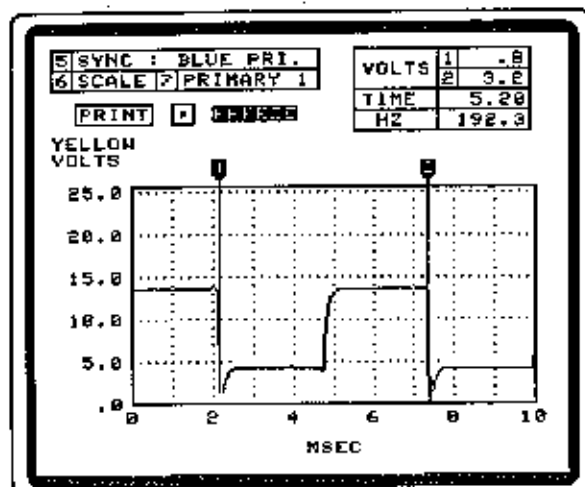

Figure 70
7. Change the format or freeze the pattern as needed. Refer to "Change Format" and "Freeze and Flags" sections (see Figure 70).